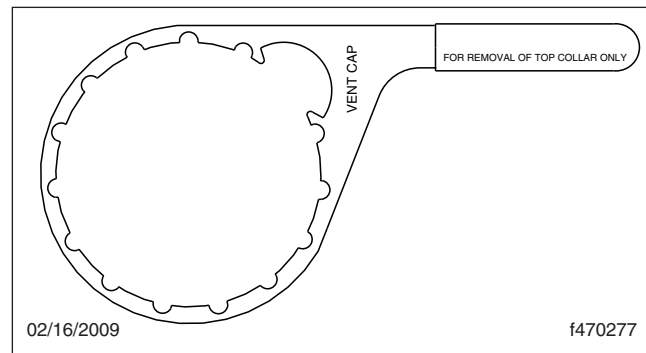

Fig. 3, DAVCO Collar Wrench
5. Using a DAVCO Collar Wrench (Fig. 3), remove the clear cover and collar.